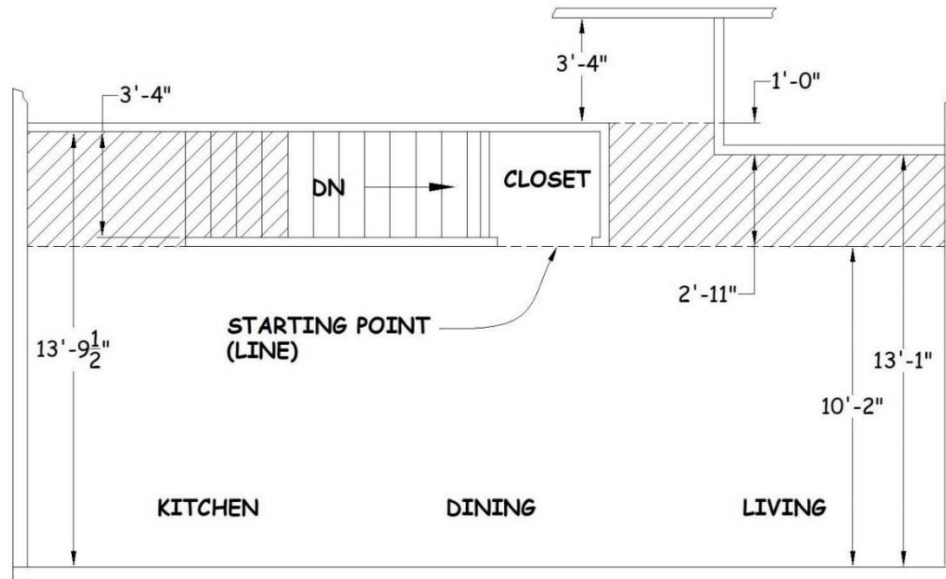

Figure 13-2. Determining the Starting Point Along Interior Common Area Walls.
1. These rooms typically have interior wall segments that are parallel to an exterior wall but have different width dimensions. The challenge for these open rooms is to determine a reasonable starting point to begin sheetrock installation. The starting point is a line parallel to the exterior wall that defines the end of the interior wall pieces and the beginning of the first full width row of sheetrock. If a starting point has not been pre-determined, follow the instructions below as they relate to the example provided in Figure 13-2 (where the cross-hatching indicates the first row of sheetrock).
3. Examine the floor plan drawing with added dimensions represented at the left side of Figure 13-2. Start with the interior wall furthest from the exterior wall (13’-9½”) and determine if a full width sheet will work there. (In this area of the example, a full 4’-wide sheet would result in less than a 16” width along the interior stairway wall so a full sheet cannot be used.)
4. If a full width sheet cannot be used, use the plan drawing to evaluate another option, such as the interior stairway wall. (In Figure 13-2 this will provide a good starting point because it satisfies the 16” minimum width requirement along both interior wall segments and the 12” minimum width along the exterior wall. The width along the exterior wall will be 2’-2”, i.e., 10’-2” minus two full 4’-wide rows.)
5. Also evaluate hallway areas extending from the kitchen/dining/living room areas. (In Figure 13-2, note that by extending the 2’-11” piece around the corner and into the hallway, a narrow filler piece could be avoided.).